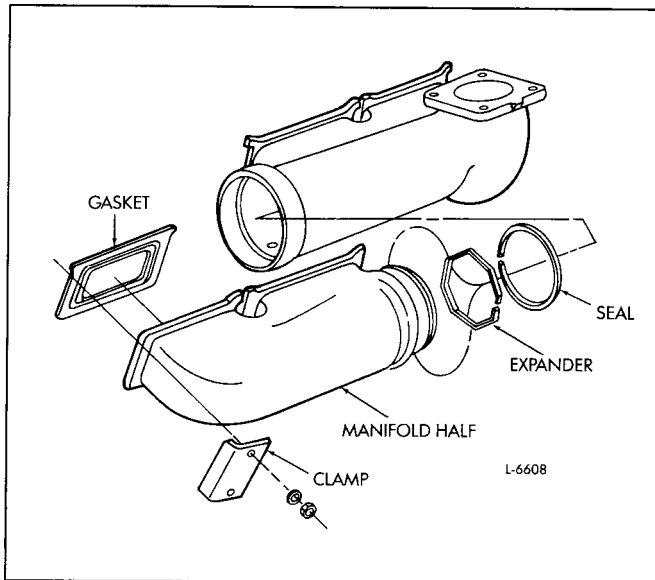
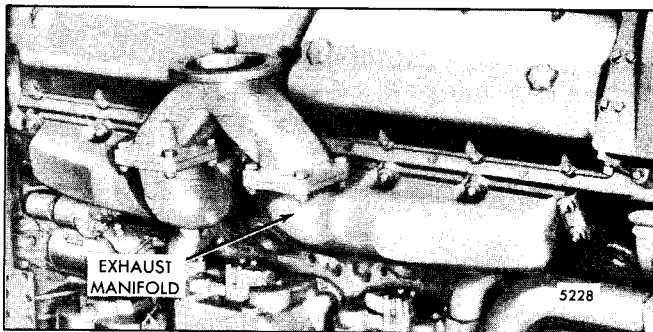
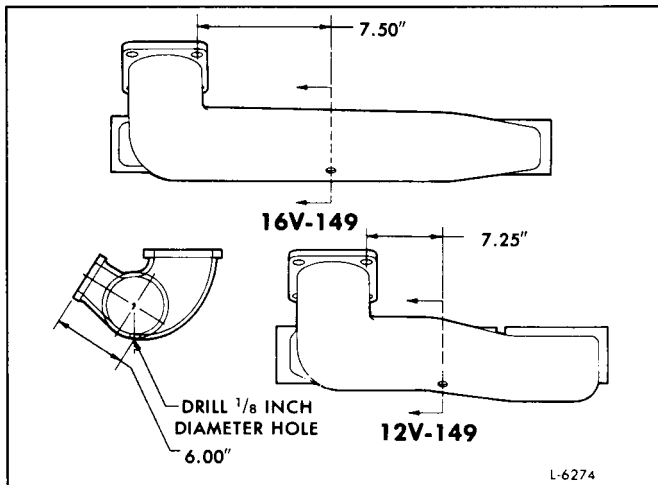

Fig. 1 Typical Two-Piece Exhaust Manifold Mounting
Fig. 2 - Typical One-Piece Exhaust Manifold Mounting
Fig. 3 - Exhaust Manifold Drain Hole Location
• A two-piece exhaust manifold with metal seal ring and expander (Fig. 1) is used on each side of 8V-engines. Two one-piece exhaust manifolds (Fig. 2) are used on each side of 12V engines. Two one-piece manifolds (Fig. 3) were formerly used on each side of 16V engines. These were replaced by new two-piece manifolds with seals, expanders, and clamps (Fig. 1), effective with unit serial number 16E08115.
A single "Y" shaped adaptor connects the manifolds to the exhaust piping for each bank on a naturally aspirated engine (Fig. 2). Turbocharged engines utilize an adaptor on each manifold which connects the exhaust manifolds to the turbochargers.
• In 1982, drain holes (Fig. 3) were added to all Series 149 non-marine exhaust manifolds in order to visually detect a *coolant leak and prevent the buildup* of potentially damaging *coolant inside the manifolds*. Effective with engine serial numbers 12E08857 and 16E08747, a new drain plug is factory-installed in the exhaust manifolds of all mine haul engines and is provided as a ship loose item (at 1 per
Those wishing to add this preventive maintenance feature to engines currently in service may modify their one-piece exhaust manifolds by drilling 1/8" holes in the locations shown in Fig. 3. Position the holes in the approximate center of the manifold in the longitudinal direction and at the lowest point in the transverse direction. Thread holes with 1/8" NPSF tap and install service-only exhaust manifold drain plugs which incorporate a 1/8" drilled hole.